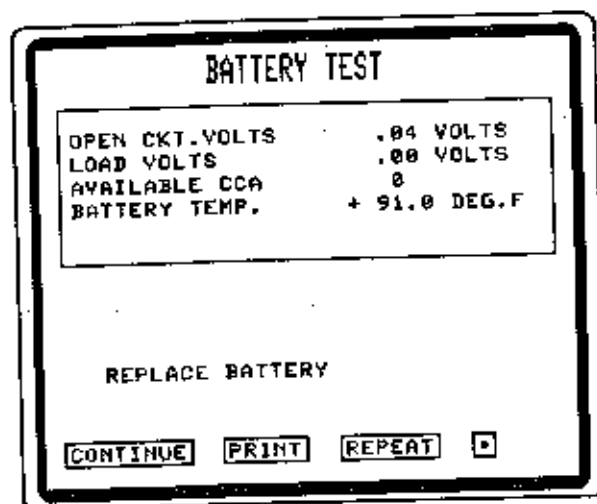

Figure 116
3. Follow the screen prompts and crank the engine until it starts (see Figure 116). The analyzer temporarily disables the ignition primary so it can read cranking values. After a few seconds, the ignition is re-enabled.